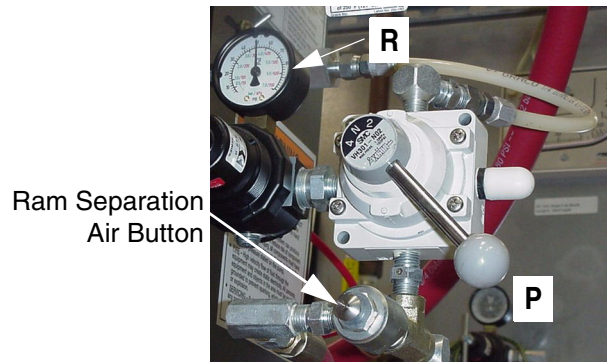

FIG. 10
3. Place the ram lever (P-FIG. 10) in the UP position.
9. With hands away from the pail and wiper plate (N), set the ram lever (P-FIG. 10) to NEUTRAL (horizontal position). Let the ram lower until the wiper plate rests on the pail lip.